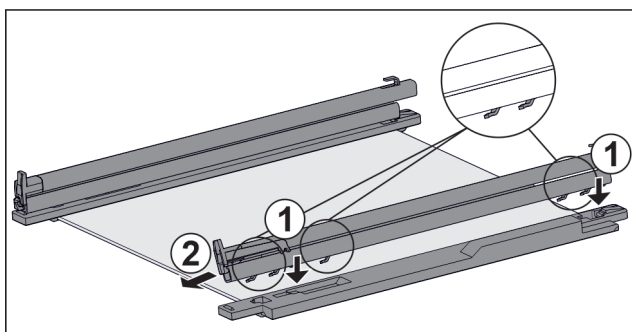

Fig. 138 Glass shelf with rails and retaining parts
- Place rail hooks onto the openings of the **left** retaining part. Fig. 138 (1)
- Push rail forwards. Fig. 138 (2)
- Place rail hooks onto the openings of the **right** retaining part. Fig. 138 (1)